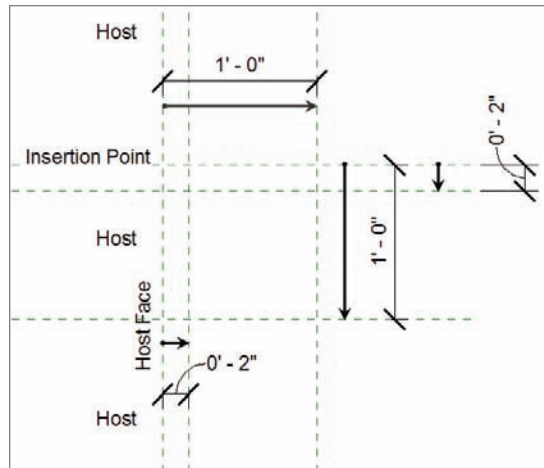

FIGURE 17.5 Adding the dimensions to the reference planes
5. Add a dimension from the top reference plane to the reference plane 2" down (see Figure 17.5).